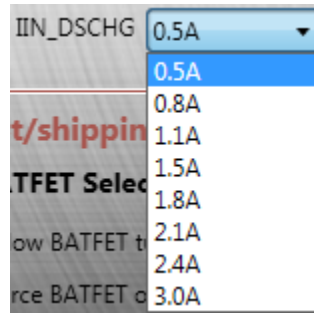

Figure 23: OTG Current Limit Setting
- Set the OTG current limit (see Figure 23). The OTG current limit ranges between 0.5A and 3.0A, and the default value is 0.5A.